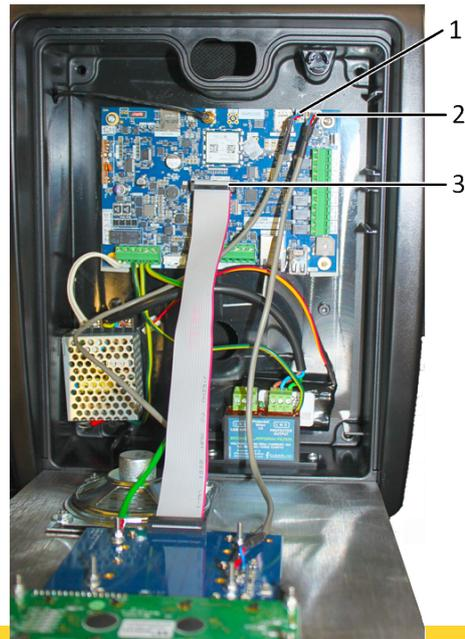

Figure 16: Disconnect Front Cover From PCB
9. Disconnect the Front Cover from the PCB (See Figure 16)²:
- a. Disconnect the microphone connector (1) from the PCB.
- b. Disconnect the speaker connector (2) from the PCB.
- c. Disconnect the ribbon connector (3) from the PCB.